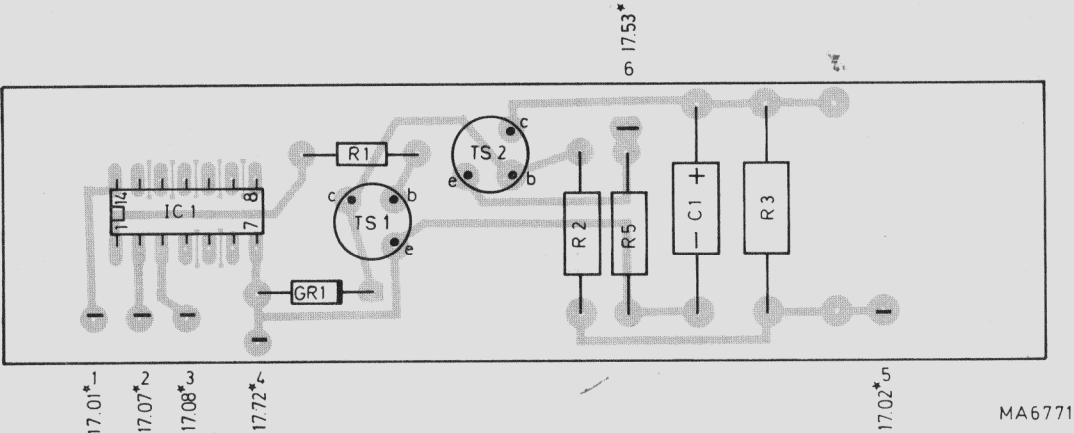

Fig. 1. Printed wiring board, circuit gate
a. UNIT 18 CURRENT GATE (see fig. 1 and fig. 2)